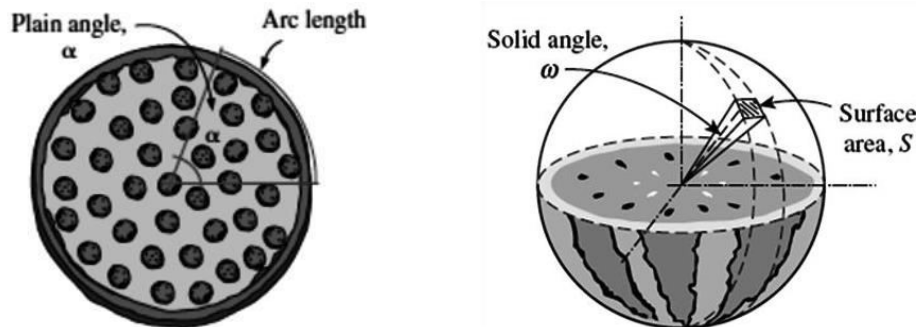

Fig. 5.14 (a) Slice of pizza of plain angle α (b) Slice of watermelon of solid angle ω
- A more general approach is to specify the angle of the slice at the center, as shown in Figure 5.14, this angle is called plain angle